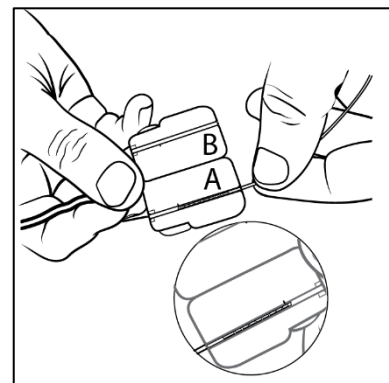

Figure 1 Connecting to the lead(s)
8. While holding the Lead in place, connect the Electrode Interface Cable to the proximal end of the Lead(s) by opening the hinged lid(s) on the cable and inserting the proximal end of the Lead(s) into the access port on the side of the lid. Verify that the Lead is fully inserted in the cable through the visual observation port on the top of the hinged lid(s), then close the lid until it snaps shut. If using one lead, connect lead to the bottom access port A; see figure 1. Please use caution when opening the Electrode Interface Cable. Only one side of the lid should be opened at a time and the lid opens just far enough to allow insertion of the lead. Trying to open both sides simultaneously increases the risk of breakage.